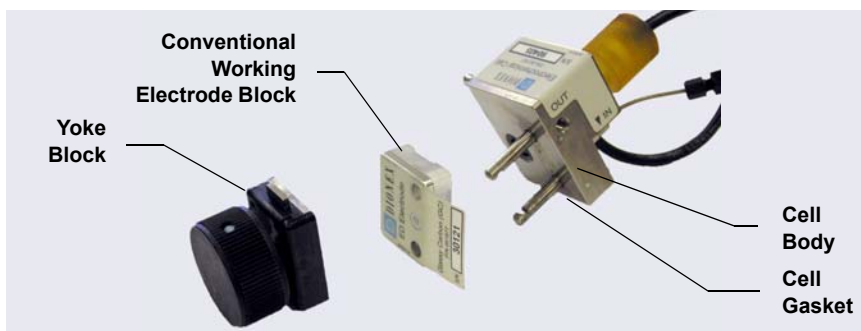

Figure 9-55. ED Cell Components
- Carefully separate the parts (see Figure 9-55).